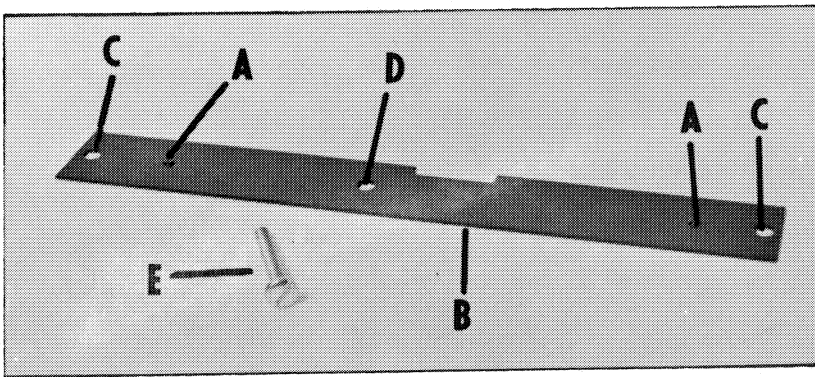

Fig. 7
There may be times when you will want to make special cuts such as rabbets, set and bevel cuts. You can make your own wood block fences to guide the plane for such cuts. The wood fences are attached to the adapter plate Fig. 7, by two small wood screws and the assembly is mounted on the plane base.
2. Lay adapter plate with the two small bosses (A) Fig. 7 up, on the wood block so edge (B) of adapter plate is flush with either edge of the wood block.
3. Insert two small wood screws thru holes (C) Fig. 7 of adapter plate, and screw into the wood block.
4. Using hole (D) in adapter plate, spot drill hole thru wood block. Use a drill bit that will provide a clearance hole for the adapter plate assembly mounting screw.
5. Place the adapter plate assembly on the plane base so bosses (A) Fig. 7, mate with the two holes in the plane base.
6. Insert the adapter plate assembly mounting screw (E) Fig. 7, thru the hole in the wood block and screw it into the tapped hole in the plane base. Tighten screw firmly. The plane is now ready to make the cut of the selected width. The wood block acts as a fence to guide the plane along the edge of the work.